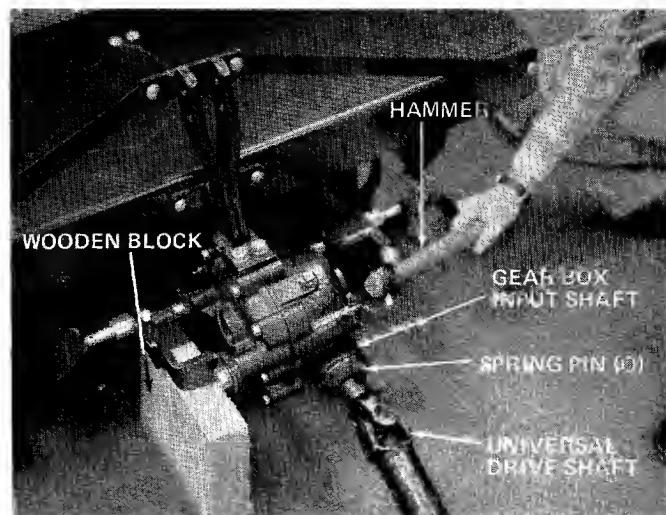

FIGURE 10.
11. Block up the front of the tiller so that the input shaft is clear of the ground. Place the universal drive shaft in position on input shaft of gear box and secure with spring pin (O). See figure 10. A hammer is required.